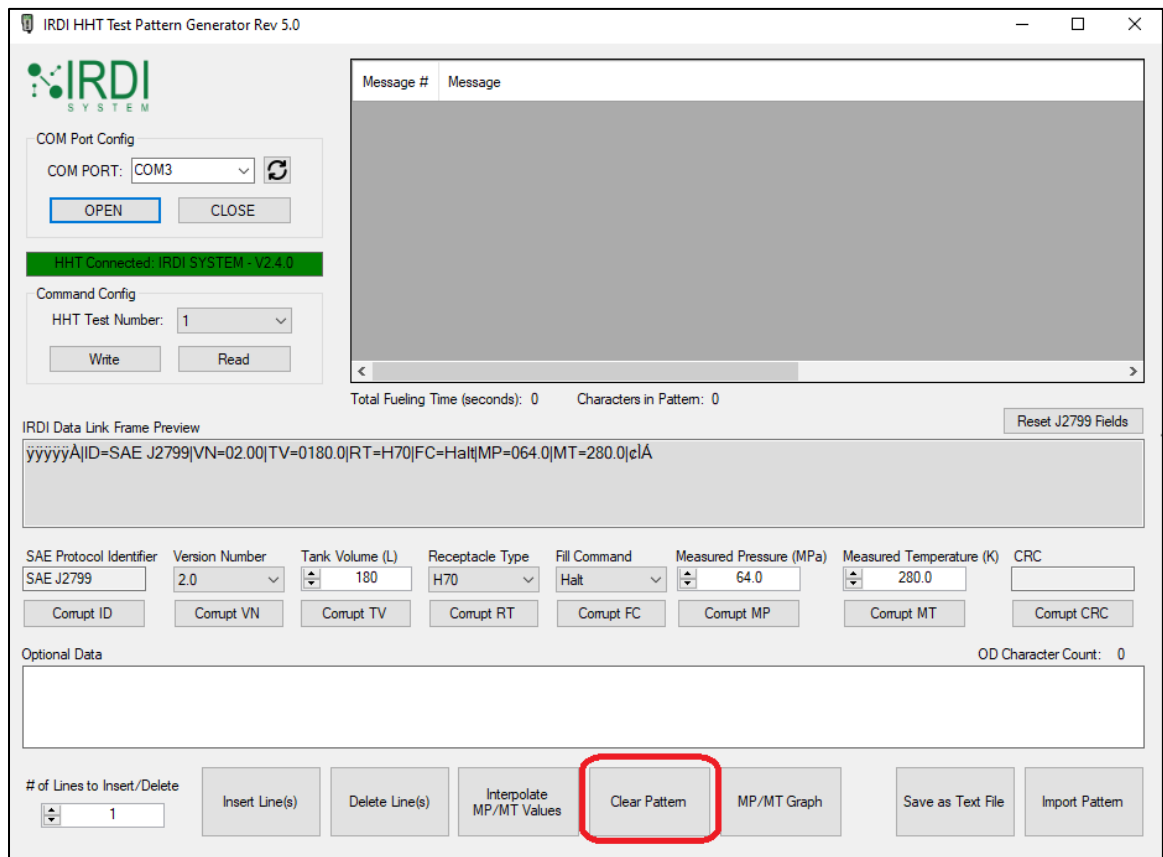

FIGURE 6-18 HHT TEST PATTERN GENERATOR SOFTWARE – CLEARING A TEST PATTERN
STEP 1	Click on the “Clear Pattern” button at the bottom of the screen – see Figure 6-18. The pattern shown in the top right area of the screen will disappear.